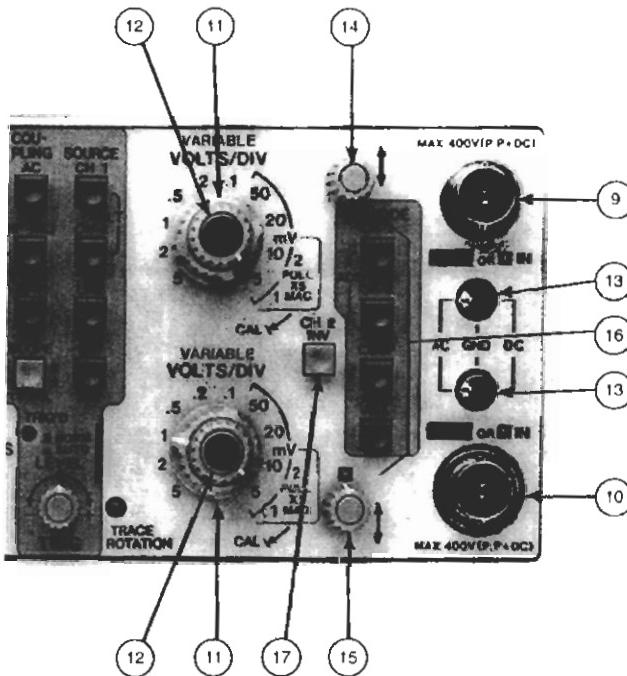

Figure 2-2. Vertical amplifier block
Refer to Figure 2-2 for references (9) to (17), and Figure 1-4 for reference (18).